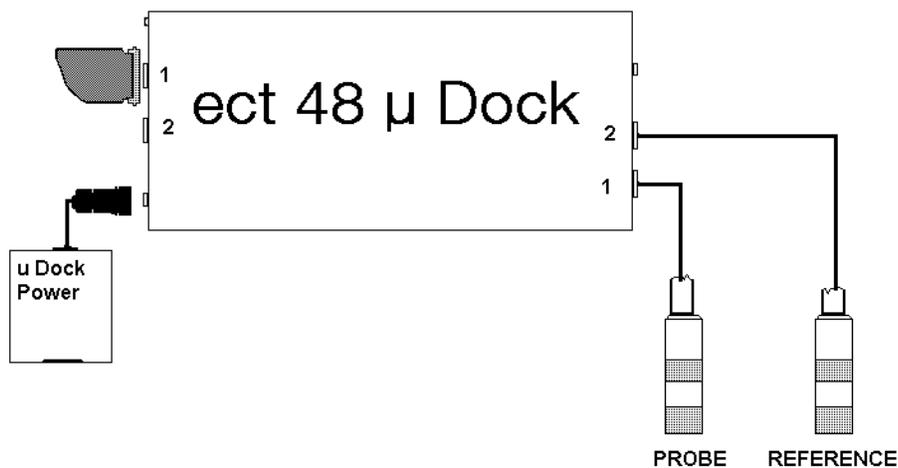

Figure 5. Non-ferrous connection with probes directly to the ect micro Dock
- F - Standard 4 pin probe connector. May be used in place of the 26 pin connector when the ect micro Dock connector adaptor is connected into the # 1 26 pin connector on the front face plate. See Figure 5.
Figure 5 shows an alternate probe connection. The 4-4 to 26-pin connector is not used. The two connectors on the back of the micro Dock are used. Connector 1 is the probe and connector 2 is the reference. The 26-pin Udock jumper must be connected to the 26-pin connector 1 on the micro Dock.